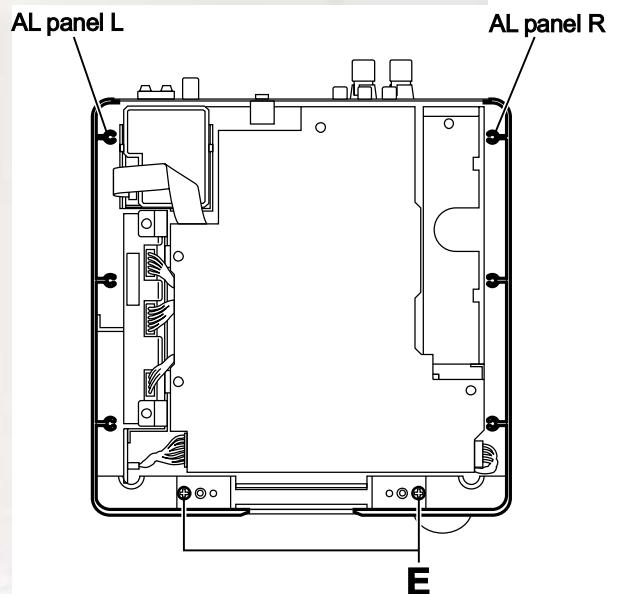

Fig.4
- From the top side of the main body, remove the two screws **E** attaching the AL panel L and AL panel R. (See Fig.4.)